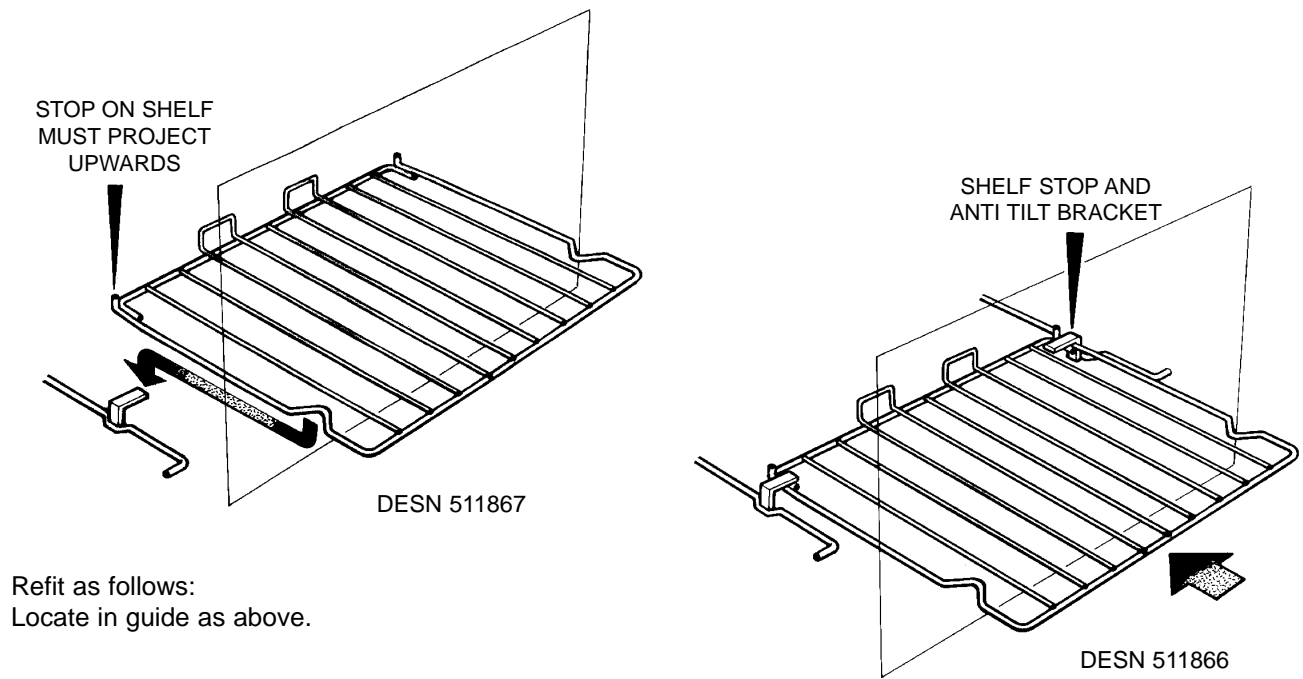

Fig. 17A
- To remove a shelf, lift clear of the side notches and slide forward. To replace a shelf, insert into the oven with the short prongs at the rear, facing upwards. Slide into position above the side notches then allow to drop down on the runner. (See Fig. 17A & 17B).